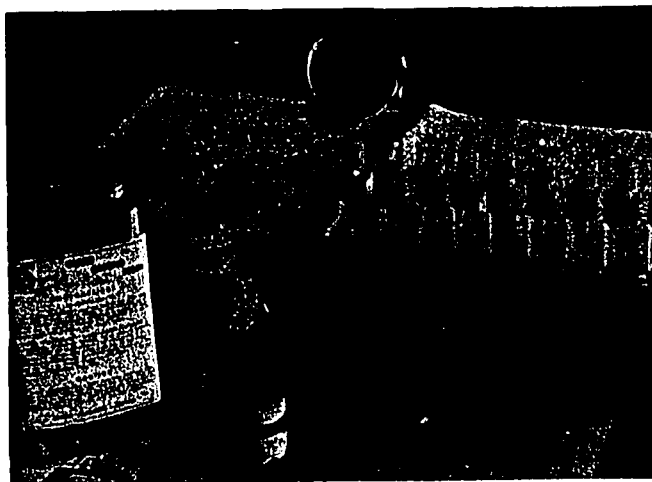

Fig. 57A-1. Pouring Resin
5. You will pour $1\frac{1}{2}$ oz. (or to a depth of $4\frac{1}{4}$ ") of clear or dyed plastic resin into your test tube mold. See Fig. 57A-1.